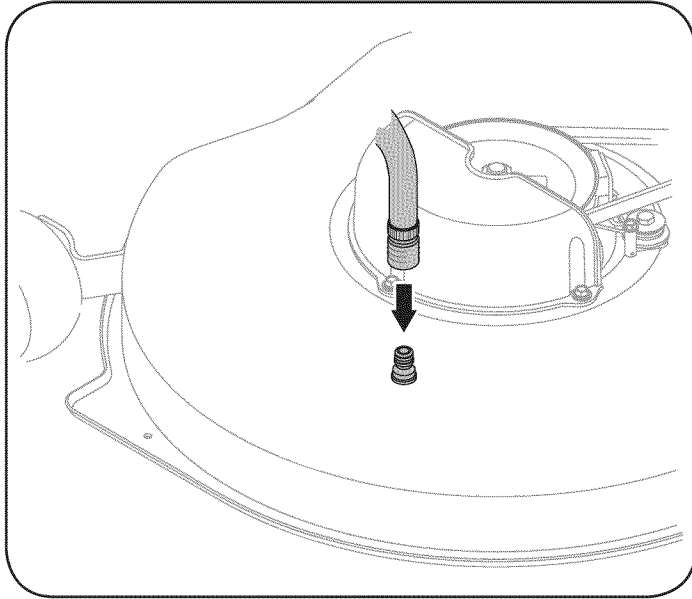

Figure 14
4. Attach the hose coupler to the water port on your deck's surface. See Figure 14.